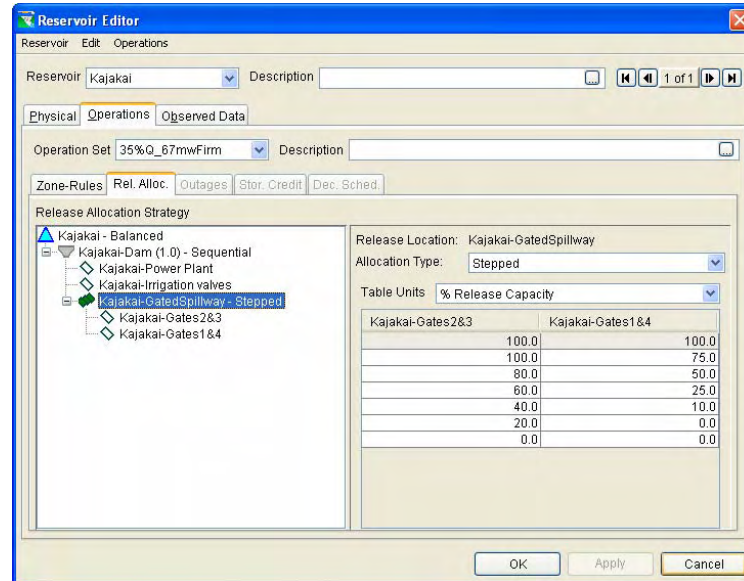

Figure 11.99 Release Allocation Editor, Release Allocation Type for Dam is Stepped for Two Outlets (representing Gates 2&3 and Gates 1&4)
- Stepped:** The combination of Balanced and Sequential allocation types is available by selecting a **Stepped** Allocation Type. Stepped allocation allows for distribution of a reservoir release among multiple outlets with the portion of the release allocated to each outlet varying over a specified range of outlet capacities. For example; four spillway gates must be operated to release only through the two center gates at lower flows (relative to outlet capacities) and transition to release from all four gates at higher flows. This operation is to prevent damage to downstream energy dissipaters and channel. Figure 11.99 illustrates this example as follows: The portion of release for the two center gates (2 & 3), expressed as a percent of their combined outlet capacity is shown in column one. Likewise the proportion of release from the two outside gates (1 & 4) is shown in column two. Reading the two-column table from the bottom row up -- no release was required from the spillway, both sets of gates are allocated to release zero percent of their outlet capacity (zero flow). When a release equivalent to 20 percent of combined capacity of outlets 2 & 3 is required in the spillway,